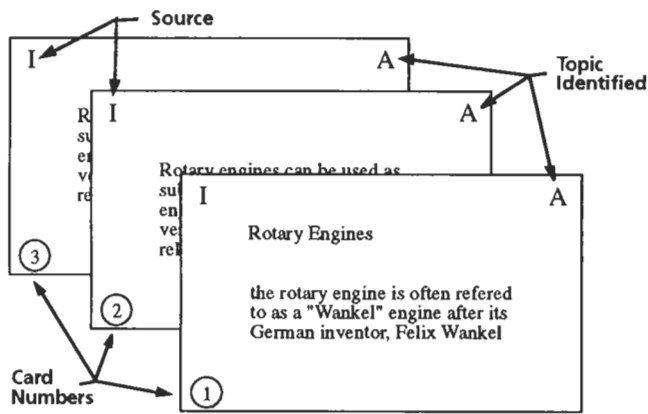

Figure 4 - Sample Set of Topic Cards
4. After you have collected a great deal of information and used several sources, you will have a series of cards that will be very helpful to you. These cards can be used to organize your material; prepare a written report; identify what you want to illustrate; and prepare your display captions. (See Figure 4.)